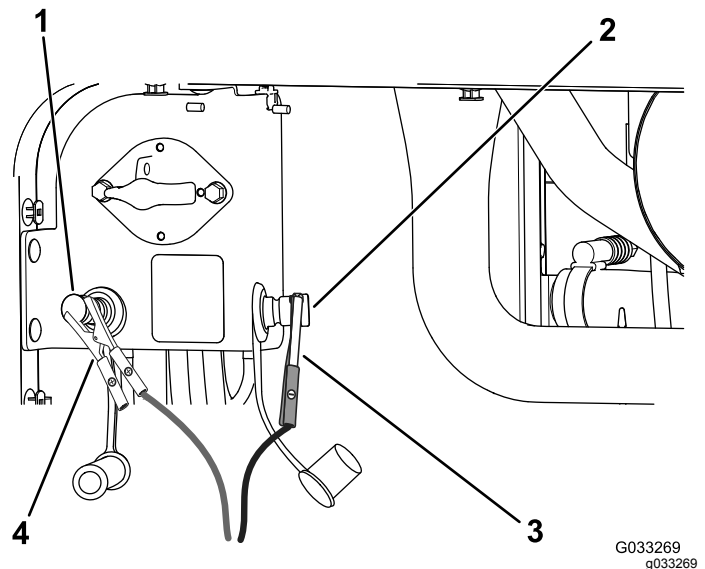

Figure 105
4. Connect the positive lead of the battery charger to the positive jump post (Figure 105).
5. Connect the negative lead of the battery charger to the negative jump post (Figure 105).
7. When the batteries are fully charged, unplug the charger from the electrical source, then disconnect the charger leads from the jump posts (Figure 105).